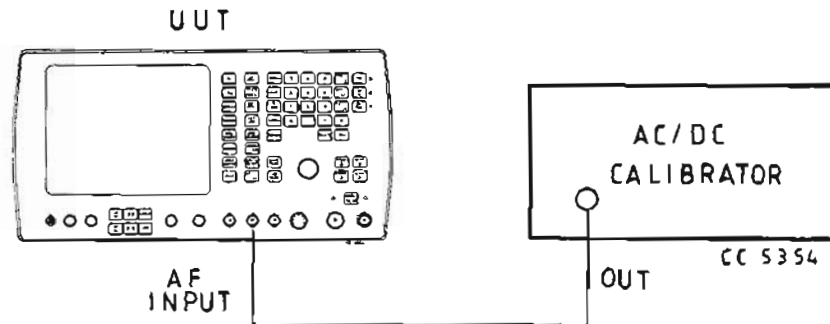

Fig. 5 Test equipment connections for adjusting R231 on AB5
- (1) Connect the equipment as shown in Fig. 5.
- (2) Set the calibrator to give 5.000 V d.c.
- (3) Set the u.u.t. to RX, distortion/SINAD/SN off, d.c. coupled, low-pass filter.
- (4) Adjust R231 until the 2955 displays an a.f. level of 5.00 V d.c.